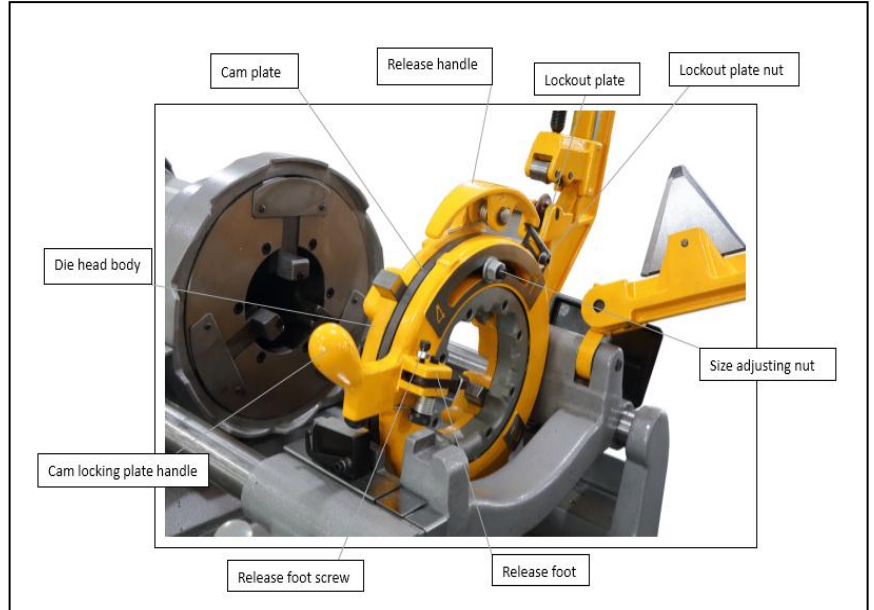

Fig 3
3. Position lockout plate IN. (Figures 3 & 4)
1. Remove release foot screw from release foot pivot block. Unhook release foot spring from release foot. Rotate release foot out until hole in foot lines up with screw hole in pivot block. Reinsert screw until it engages release foot (Figures 3 & 5).
2. Position lockout plate OUT (Figures 3 & 5).
3. Push carriage sine bar to far right end of carriage and rotate sine bar hook around until it engages the hole in end of carriage (Figures 3 & 5).
7. When desired length of thread has been reached, depress release handle to disengage latch (Figure 3). Die head will open.